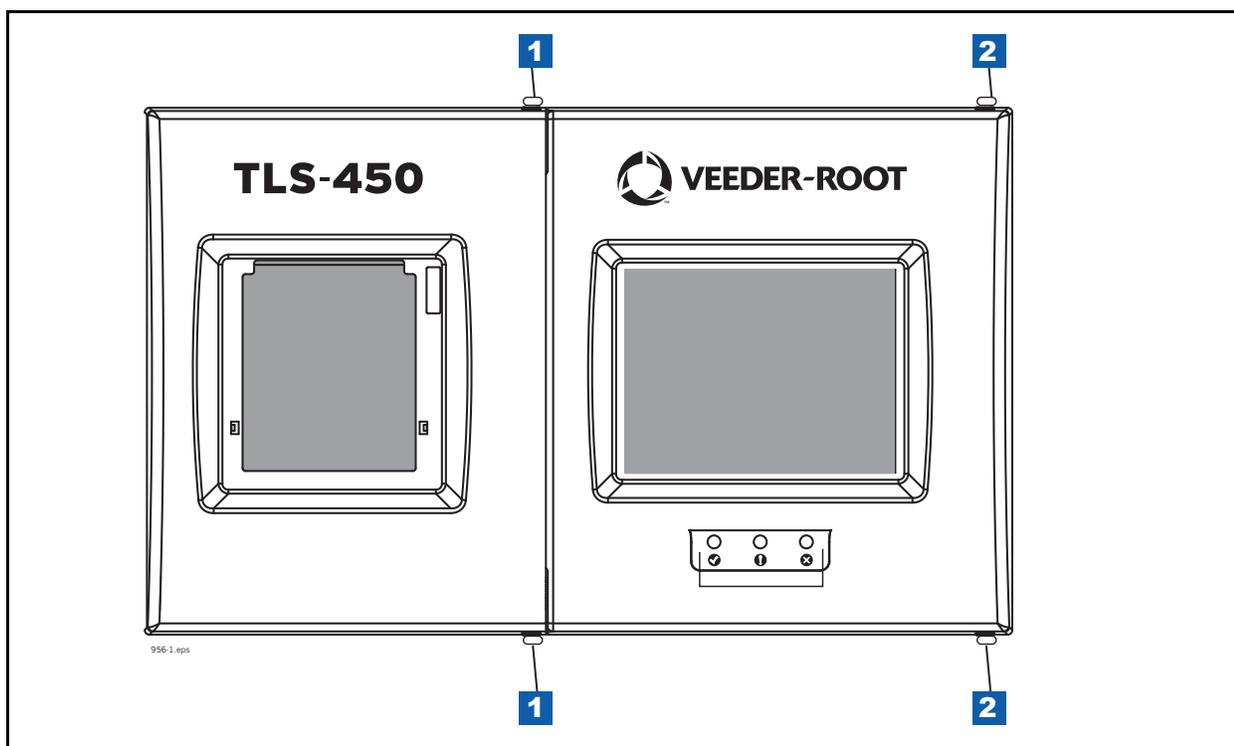

Figure 2. Front doors
2. Open the two front doors of the console as shown in Figure 2
### Legend for numbered boxes in Figure 2
2. Open the left front door of the console as shown in Figure 2.